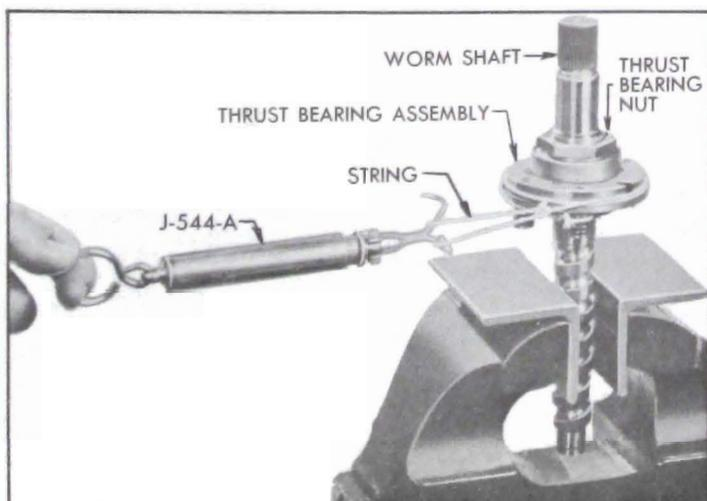

Figure 8-29—Checking Thrust Bearing Preload
6. Check for roughness by holding the worm stationary and rotating the center race. If the bearing is rough, replace thrust bearing assembly. Check the thrust bearing preload. This should be between $\frac{3}{4}$ and 3 lbs. measured at the outer edge of the center bearing. To measure bearing preload, clamp the worm in a vise using soft jaws. Fasten a cord to one of the riveted centering springs and wind it around the center race. Attach the other end of the cord to Spring Scale J-544-A. Then slowly pull the other end of the scale and check the reading. If the preload is not within the limits, push the staked portion of the thrust bearing nut up out of the thread groove, being careful not to damage the thread, and remove the nut and discard. Use a new nut and adjust as necessary to obtain proper preload. After the proper preload has been obtained recheck bearing for roughness and stake the nut being careful not to move the nut when staking. Recheck the preload after staking. See Figure 8-29.